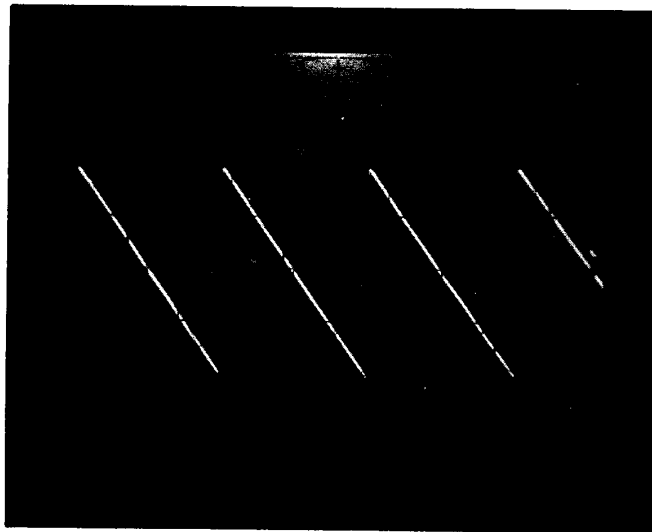

Figure 2-11. Phase Reference Test Display
43. Adjust TUNING to place the marker at the highest frequency at which the trace crosses the center graticule line. The trace should appear as in Figure 2-11.